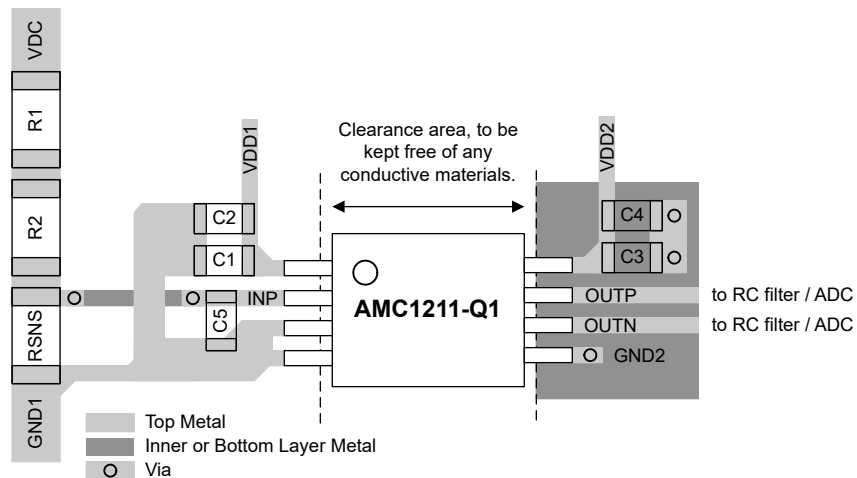

图 8-6. Recommended Layout of the AMC1211-Q1
图 8-6 shows a layout recommendation with the critical placement of the decoupling capacitors (as close as possible to the AMC1211-Q1 supply pins) and placement of the other components required by the device. For best performance, place the sense resistor close to the device input pin (IN).